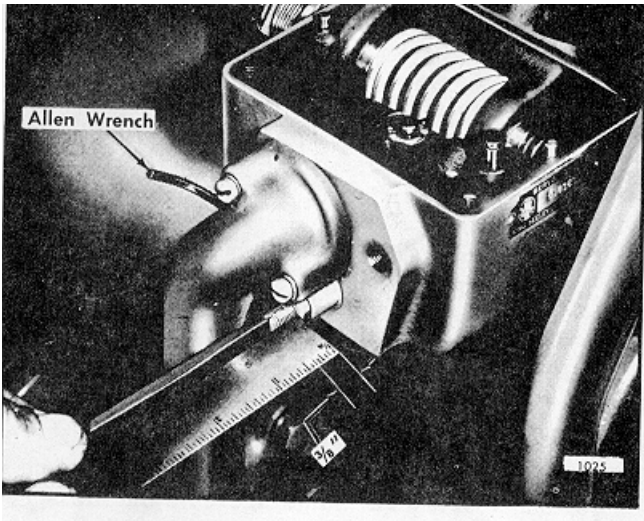
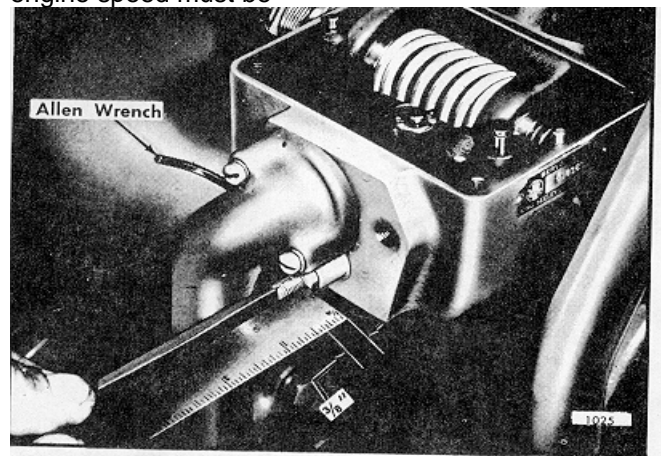

Fig. 2 - Preliminary Adjustment of Low and High Speed Springs
Fig. 3 Preliminary Adjustment of Modulating Cam
**CAUTION:** The high speed plunger (39) and the fuel modulating spring adjusting screw (41) should both be held securely in position with two wrenches when tightening the fuel modulating adjusting screw lock nut (40) to prevent the screw and plunger relationship from being disturbed.
- A Reset the idle adjusting screw (43) to 2" projection ("A" in Fig 2) and replace the control housing cover. Secure it with the two screws.
**CAUTION:** Be sure that the throttle shaft pin is positioned between the torsion spring (36) and the end of the differential lever.
- B Start the engine and make a preliminary idle speed setting by setting the speed at 385 rpm with the low speed screw (43) and advancing the speed to 400 rpm by turning in the buffer screw (46) Tighten the low speed lock nut (42).
- E Thread the buffer screw (46) outward 4 or 5 turns.
- F Loosen the cam adjusting screw lock nut (49). Remove the plugging screw (51) and use an Allen wrench to loosen the cam lock screw (50) approximately 1/8 turn to permit the cam to be moved in and out without allowing it to turn in housing.
- G Thread the cam adjusting screw (48) into the housing until the screw extends 3/8" beyond the lock nut when the nut is against the sleeve, Fig. 3. Tighten the cam lock screw with the Allen wrench to hold the cam in position until adjusted later.